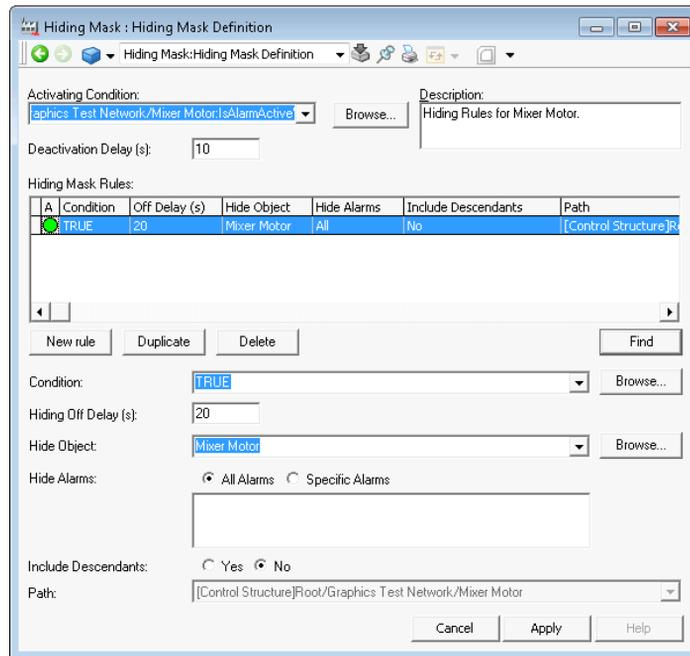

Figure 46. Hiding Mask Definition
- **New Mask** - Select **New Mask** to create a new Hiding mask. To edit a Hiding Mask, double-click on the Mask or select a Mask and click **Edit Rules** (refer to Edit Rules). This opens the **Hiding Mask Definition** dialog box, refer to Figure 46.
Click **Apply** on the new created mask and then **Edit Rules** to add a Hiding Rule. The Hiding Mask Definition dialog appears, refer to Figure 46.